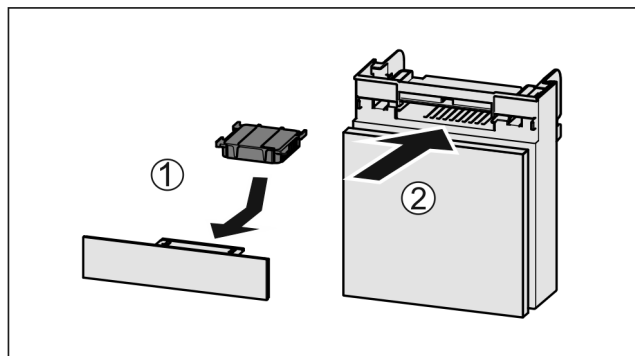

Fig. 171
- Insert the carbon filter as shown in the diagram Fig. 171 (1).
- Push the compartment in Fig. 171 (2).